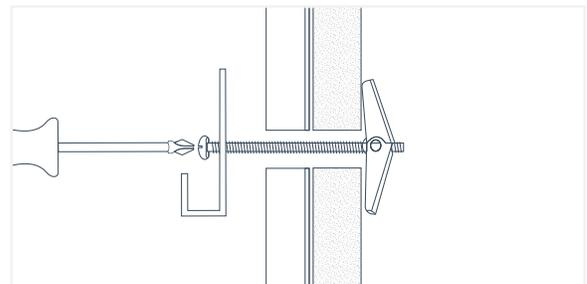

Fig. 52
3. Fold the wings down and insert the end of the bolt into the hole. Push the entire assembly into the hole until you feel the wings pop out behind the Wall&CeilingBoard panel or backer material (Fig. 52).